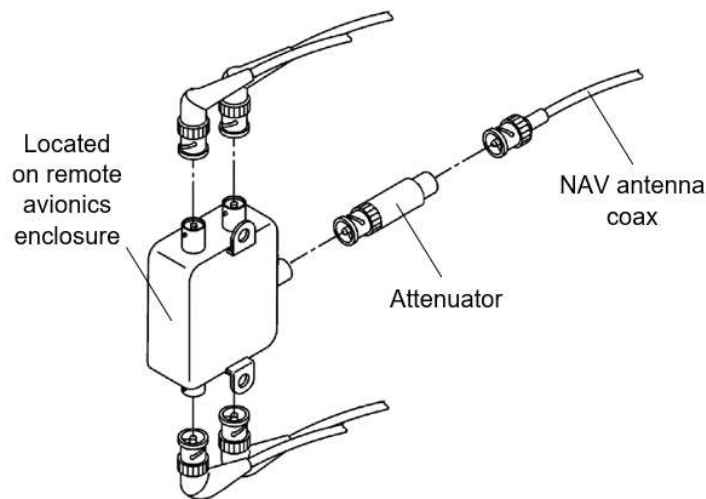

Figure 1. Attenuator installation.
5. Install the fixed attenuator (item 1) between the NAV antenna coax and the diplexer (located on the remote avionics enclosure). See Figure 1.